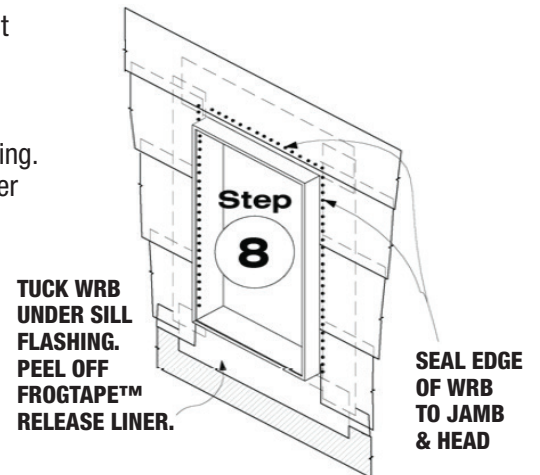

Figure 9 Install WRB and seal around perimeter.
Step 8. Install water-resistant barrier (WRB) shingle fashion from bottom of wall to top. Integrate sill flashing by inserting WRB under sill flashing. Peel off remaining release liner from FrogTape Pro Grade Flashing Tape and adhere to WRB. Seal edges of WRB to window jamb and head (see Figure 9).
Step 9. Install trim and/or exterior wall cladding around perimeter of window. Seal perimeter joints per the recommendations of the cladding and window manufacturers (see Figure 9).